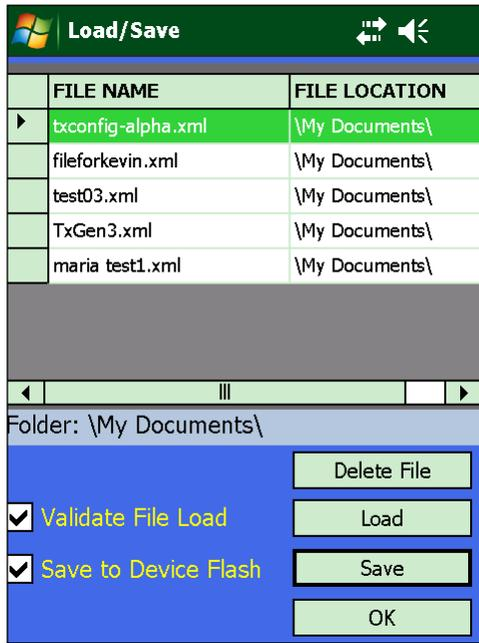

Figure 21: Load/Save Presets Screen
1. Tap on Load in the Load/Save screen (Figure 21).